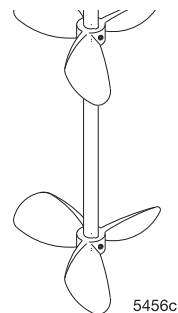

FIG. 5: Ground the Agitator
To ground the agitator, connect one end of the ground wire (A) to the ground connector (B) on the agitator. See FIG. 5. Connect the other end of the ground wire to a true earth ground.